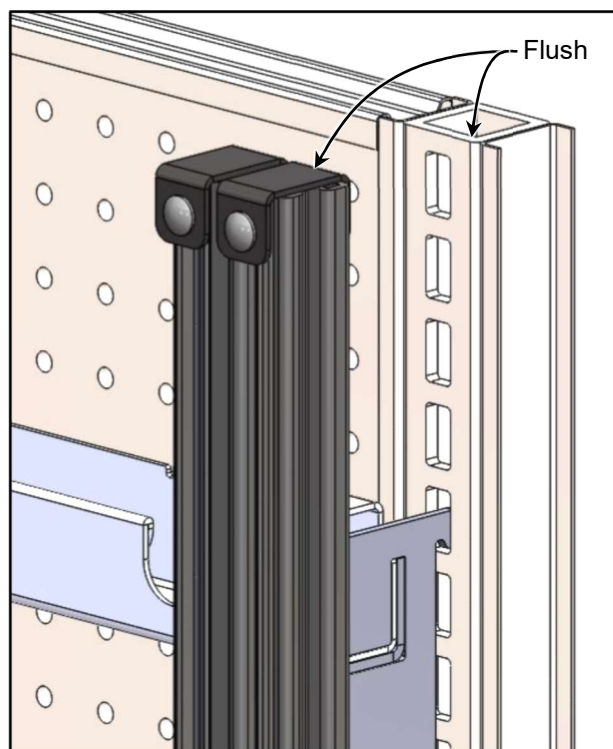

Figure 13
*Note: If the store manager approves, the Uprights may be installed up to 6" above the gondola. (See Figures 13 & 14)*
*Standard installation: Upright mounted flush with gondola top (See Figure 13).*